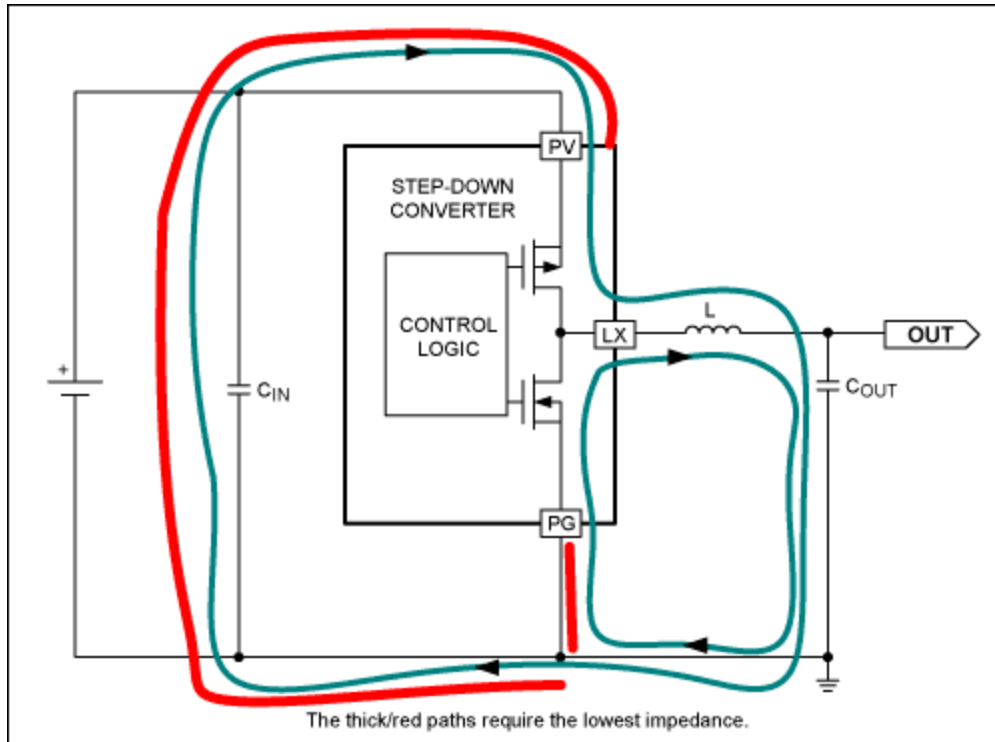

Figure 1. Step-down converter current loops.
- o Place L3 between LX3(27) and the output capacitors C3, C4, and C5.
- o Place L1 between LX1(35) and the output capacitors C1 and C2.
- o Place L2 between LX2(15) and the output capacitors C6 and C7.
- o Place L4 between LX4(4) and the output capacitors C8 and C9.
- o Minimize the electrical length and loop area of the current paths shown in **Figure 1** and described below. Minimizing the electrical length of these paths reduces parasitic resistance; minimizing loop area reduces radiated noise.